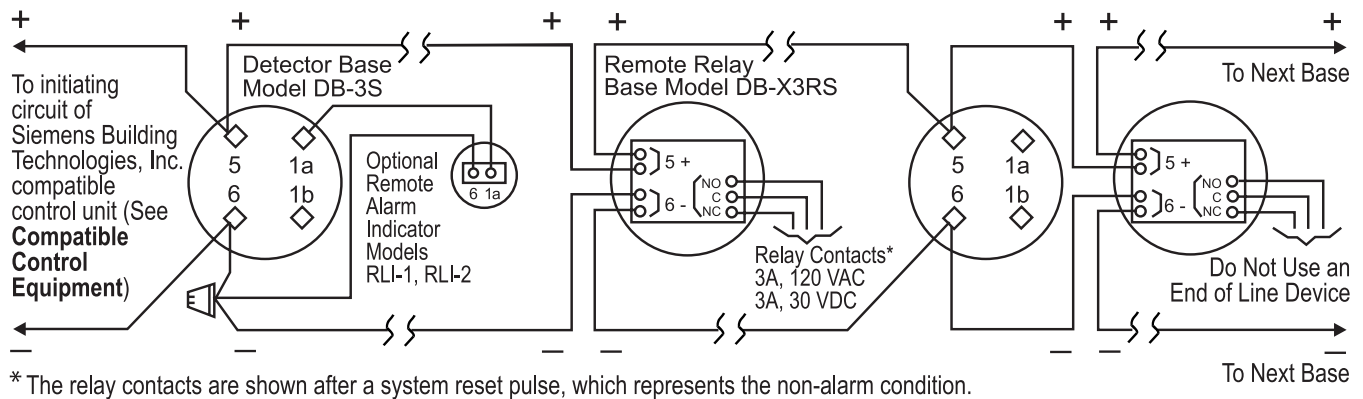

Figure 1
Siemens Building Technologies, Inc. detectors should be interconnected as shown in Figure 1 and wired to the control panel by following the **Wiring Diagram** installed on the inside face of the control panel or in the Control Panel Manual provided. Note any limitations on the number of detectors permitted on each circuit.
- Mount base to outlet box and route wires through the hole in the center of the base. Make connections directly to the base terminals. Refer to Figure 1 for details.